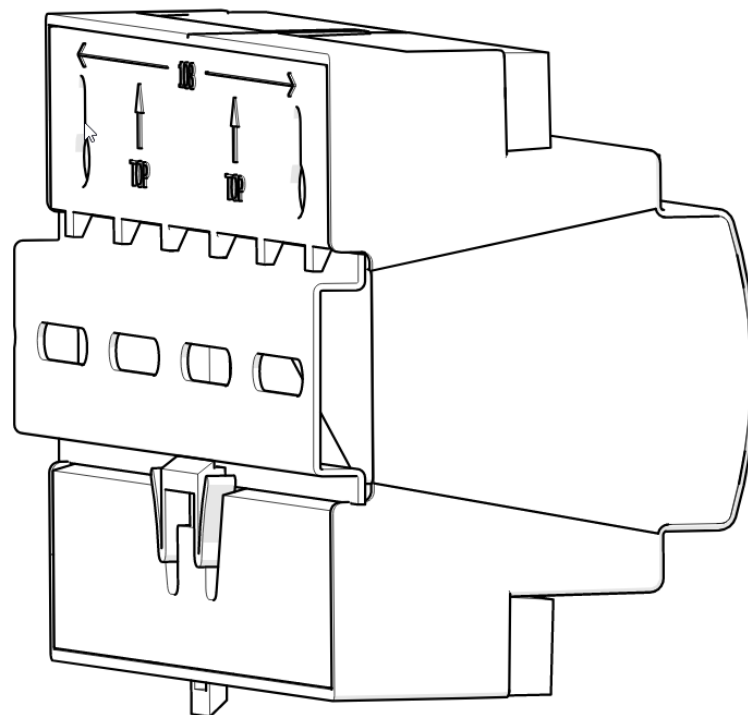

Figure 8. Lock the unit on the DIN rail
- 4. Release the retention clip to lock the unit on the DIN rail. Refer Figure 8.